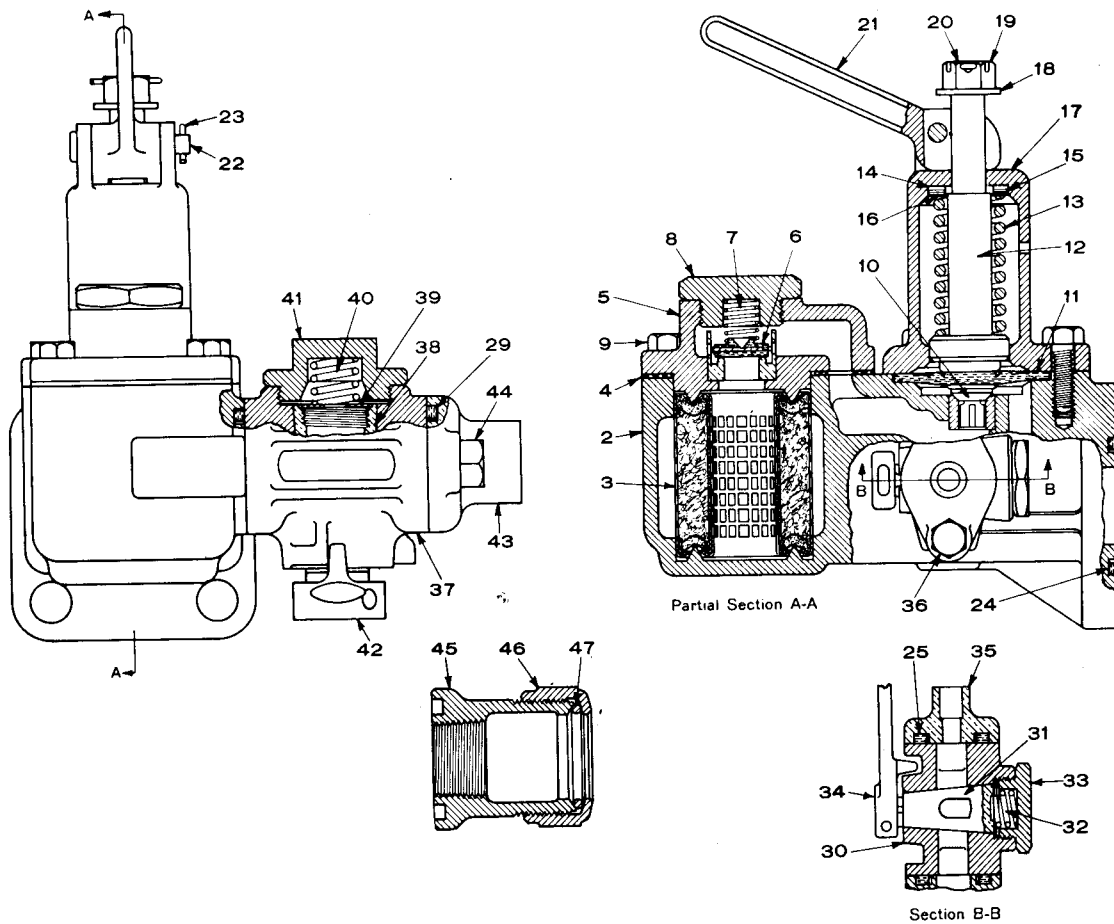

FIG. 8—PROTECTION VALVE
- Fig. 8. Protection Valve.
The protection valve (Fig. 8) as applied to air delivery lines, incorporates several functions in a single valve casing. In addition to a plug cock to isolate the unit, an exhaust valve to permit draining the delivery main, and a one-way check valve against reverse flow, the protection valve incorporates a two-way check designed to operate on a differential in pressure between its two sides and to close on a high rate of flow in either direction such as might result from breakage of the air line or other emergency.
For delivery systems in which a protection valve is installed adjacent to the air supply unit, it will be necessary to reset this valve by hand when admitting air to an empty line. Move the pivoted reset handle (Item 21 in Fig. 8) toward the valve casing and hold it in that position until line pressure has reached 90 to 100 psi. The valve will pass air into the line automatically for all pressures above this point.